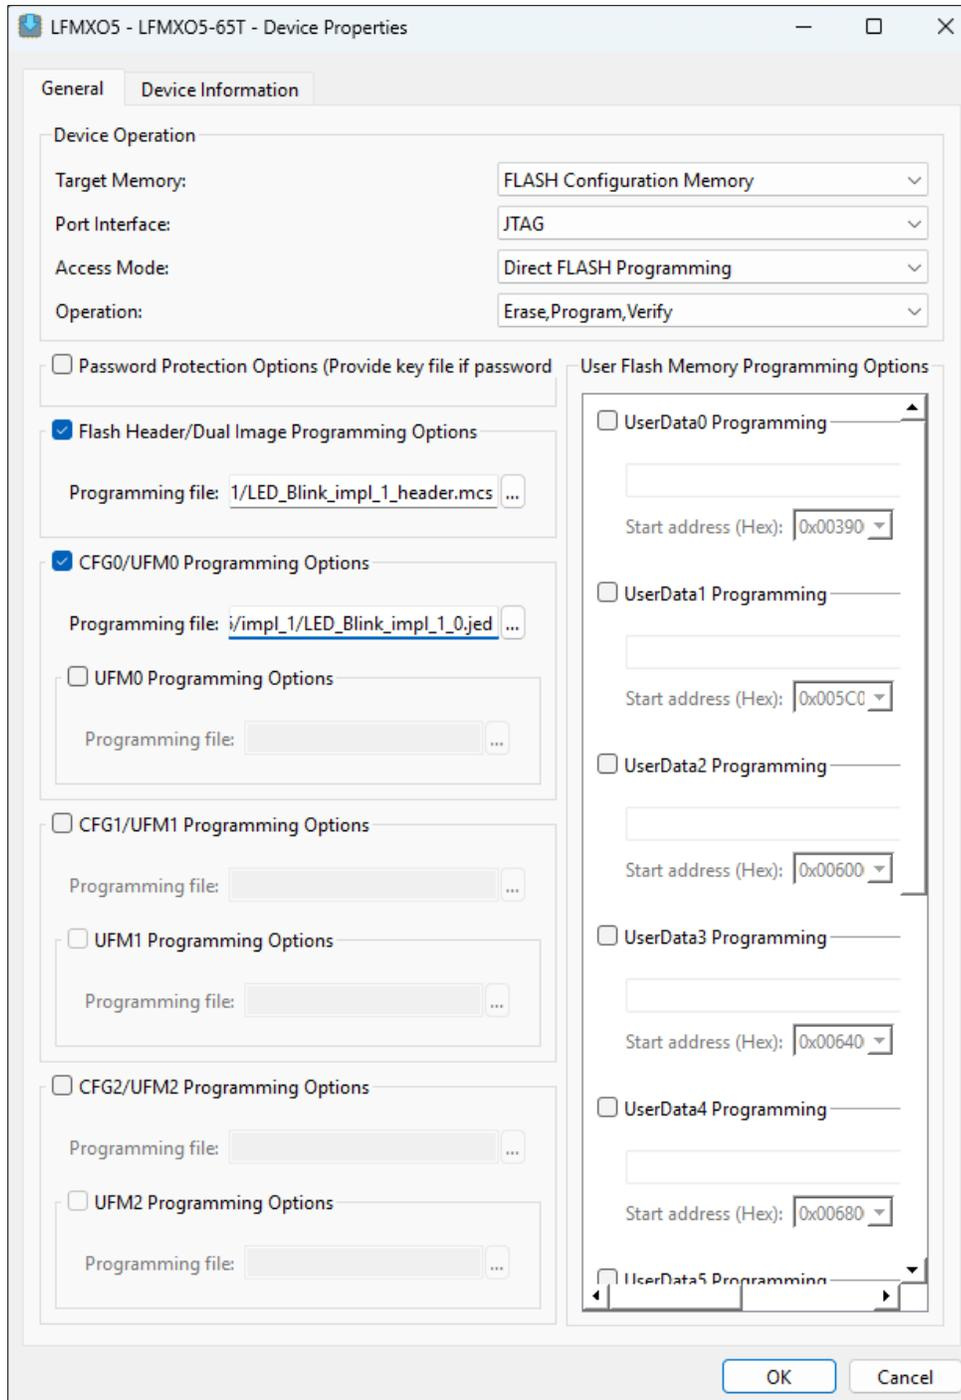

Figure 4.6. Radiant Programmer – Device Properties for FLASH Configuration Memory
7. Then, select target User Flash Memory Programming Options, as shown in Figure 4.6.